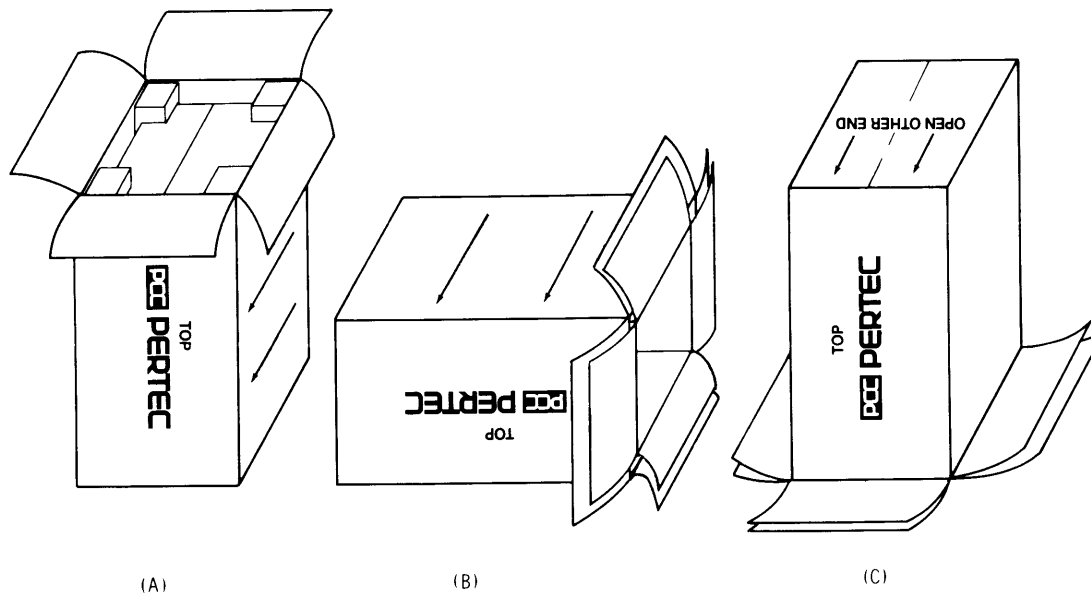

Figure 2-1. Carton Placement for Removal of Transport
- (2) Remove or cut tape from around top of carton and open flaps. Refer to Figure 2-1 (A).
- (3) Fold outer carton flaps out and away from carton.
- (4) Remove Operating and Service Manual from carton.
- (5) Slit tape holding inner carton flaps together.
- (6) Remove the four corner blocks and fold the inner flaps out and away from the carton. Rotate packing assembly 90 degrees to position shown in Figure 2-1 (B); rotate another 90 degrees until the entire packing assembly is in the position shown in Figure 2-1 (C).
- (7) Lift outer and inner carton together up and away from the steel framework securing the transport.